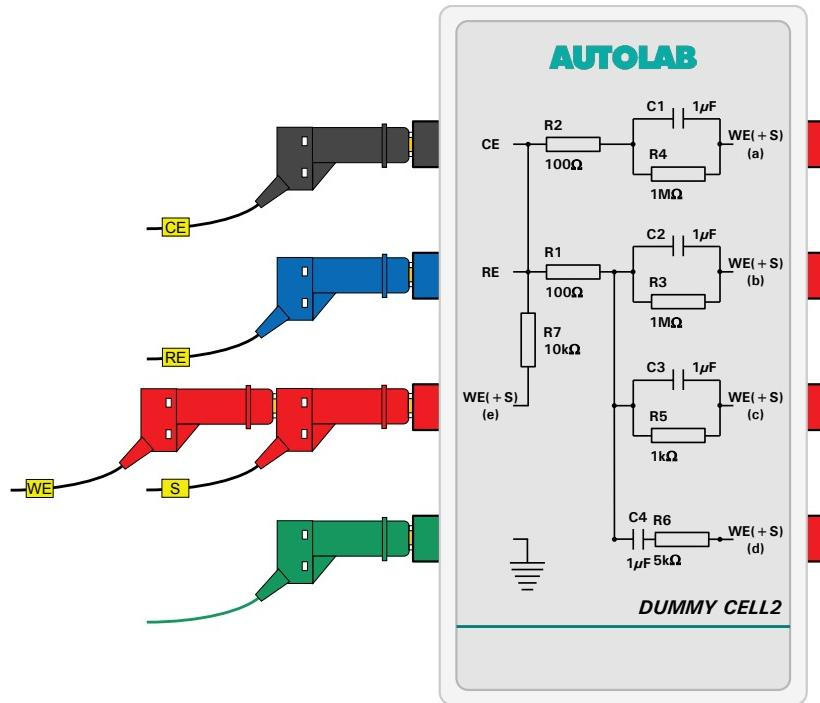

Figure 1.104 – Overview of the connections required for the determination of C1
3. Connect the Autolab Dummy cell as shown in Figure 1.104. Connect the ground lead from the PGSTAT to the Faraday cage.